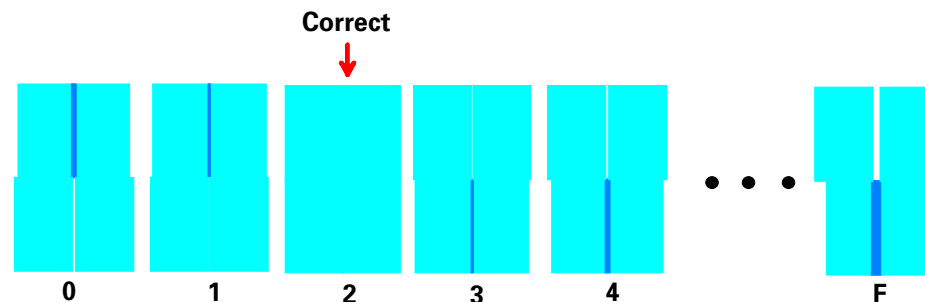

Figure 5-25. New #6 and #8 patterns
- Using this list and referring to Figure 5-25 and Figure 5-26, you can easily determine whether or not the current parameters are correct.
- Determine which patterns are incorrect and need adjustment. You judge patterns #1~5 and 7 the same as always; they are correct if they line up vertically. See Figure 5-25 for details on judging the correct item in patterns #6 and #8.